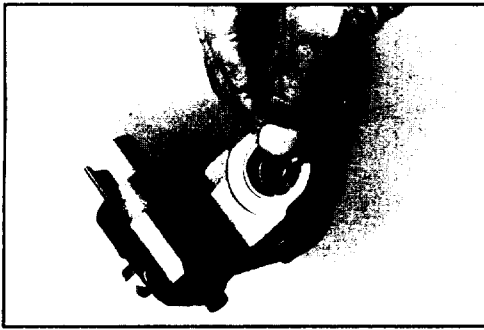

Fig. 53
4. Using new solenoid seal rings, coat them with clean lube oil (Fig. 53). Install the upper and center seal ring on the solenoid body and the lower seal ring into the bottom of the solenoid bore in the housing.